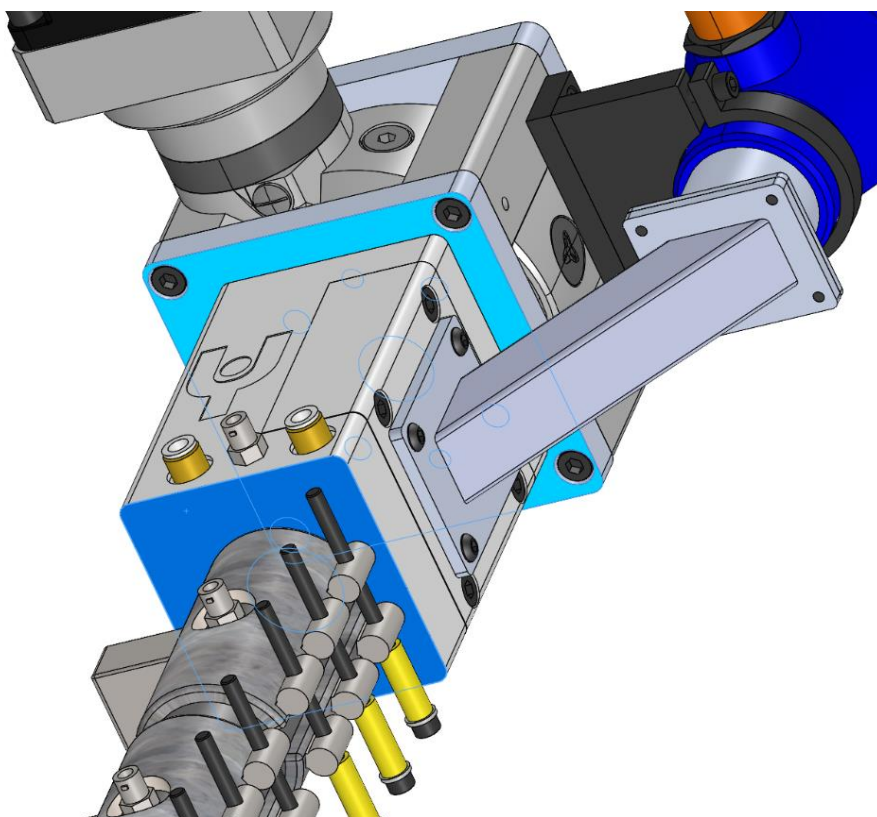

Figure 41
- Grease may accumulate below the gearbox and the water-cooled material inlet, see fig 41. These should be wiped with a damp cloth or paper. **It is prohibited to use burnable chemicals for cleaning near the extruder heating bands.**